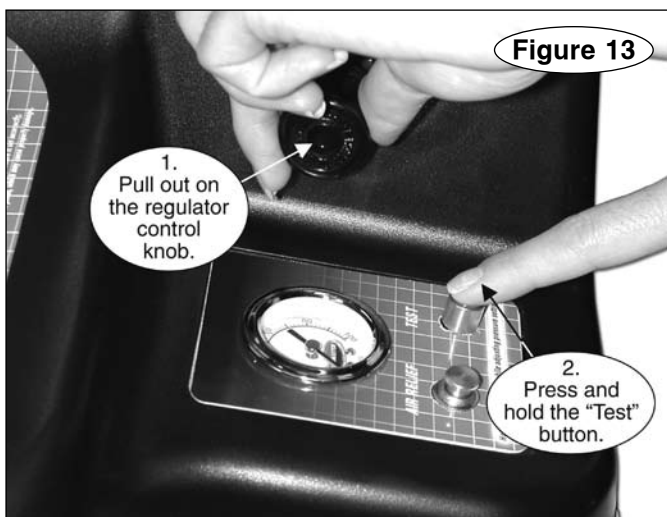

Figure 13
1. Pull out on the regulator control knob (Figure 13) to
2. Then, press and hold the "Test" button down (Figure 13). If the air reservoir is not completely filled, wait for the air compressor to fill the reservoir.